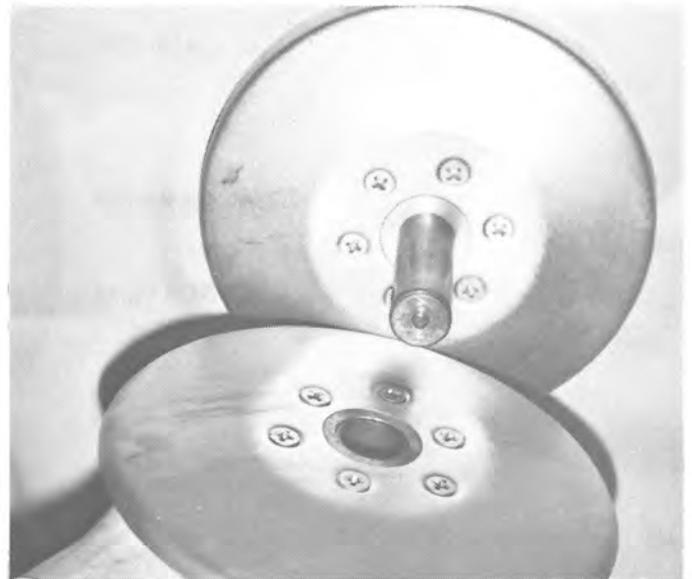
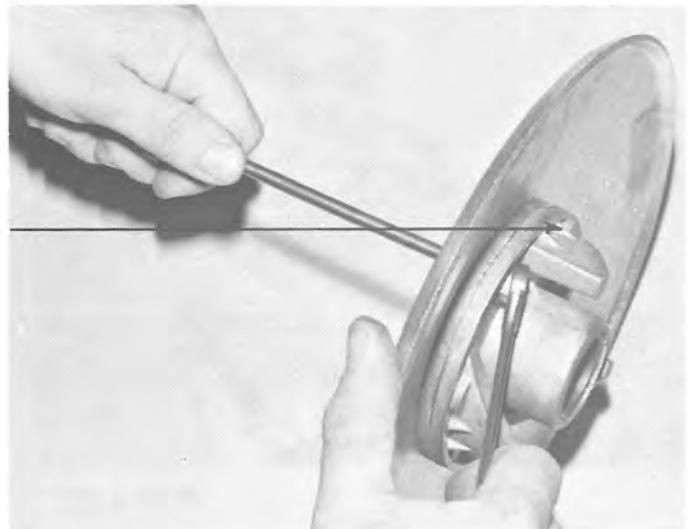

FIG. 4-20
FIG. 4-21
5. This should allow cam bottom and movable sheave to be removed as a unit (See Figure 4-20), and disassembled if necessary. (See Figure 4-21.)